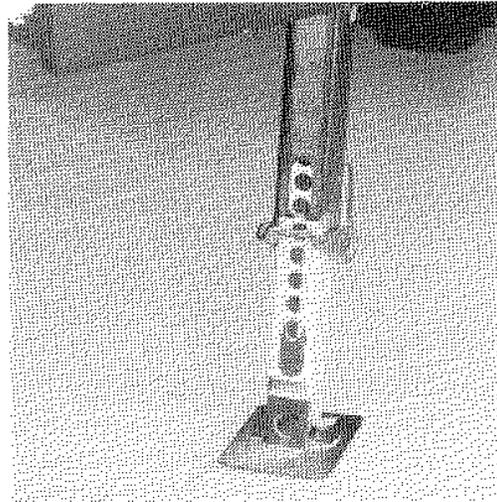

Fig. 4
4. Now release springloaded, self-storing stabilizer jacks. Base of this jack is welded to frame. Using 1 or both hands, grip jack and push toward center of camper approximately 5/8". It will require fair amount of effort to release and swing down as in Fig. 4. Now extend the jack “foot” by pushing it to the ground. More tension can be placed on the jack feet by using the long jack handle supplied in each unit. Be sure that not too much force is applied to the jack handle; it may cause the holes in the jack legs to expand by breaking out the dividers and cause adjustment problems in the entrance door. One notch should be sufficient. **DONOT** place excessive weight on these jacks as they are intended to stabilize, not bear the weight of the camper.